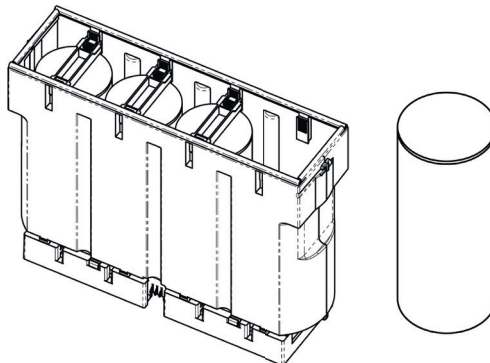

Figure 23. Filter replacement
5. Extract exhausted HEPA filters as shown in Figure 23;